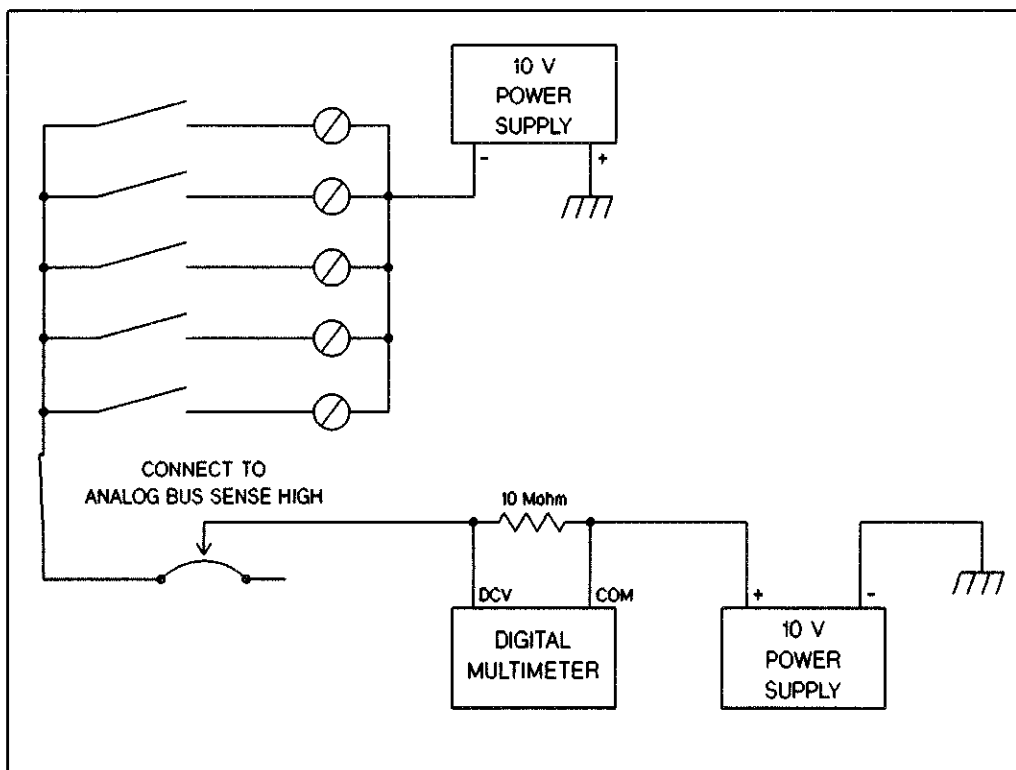
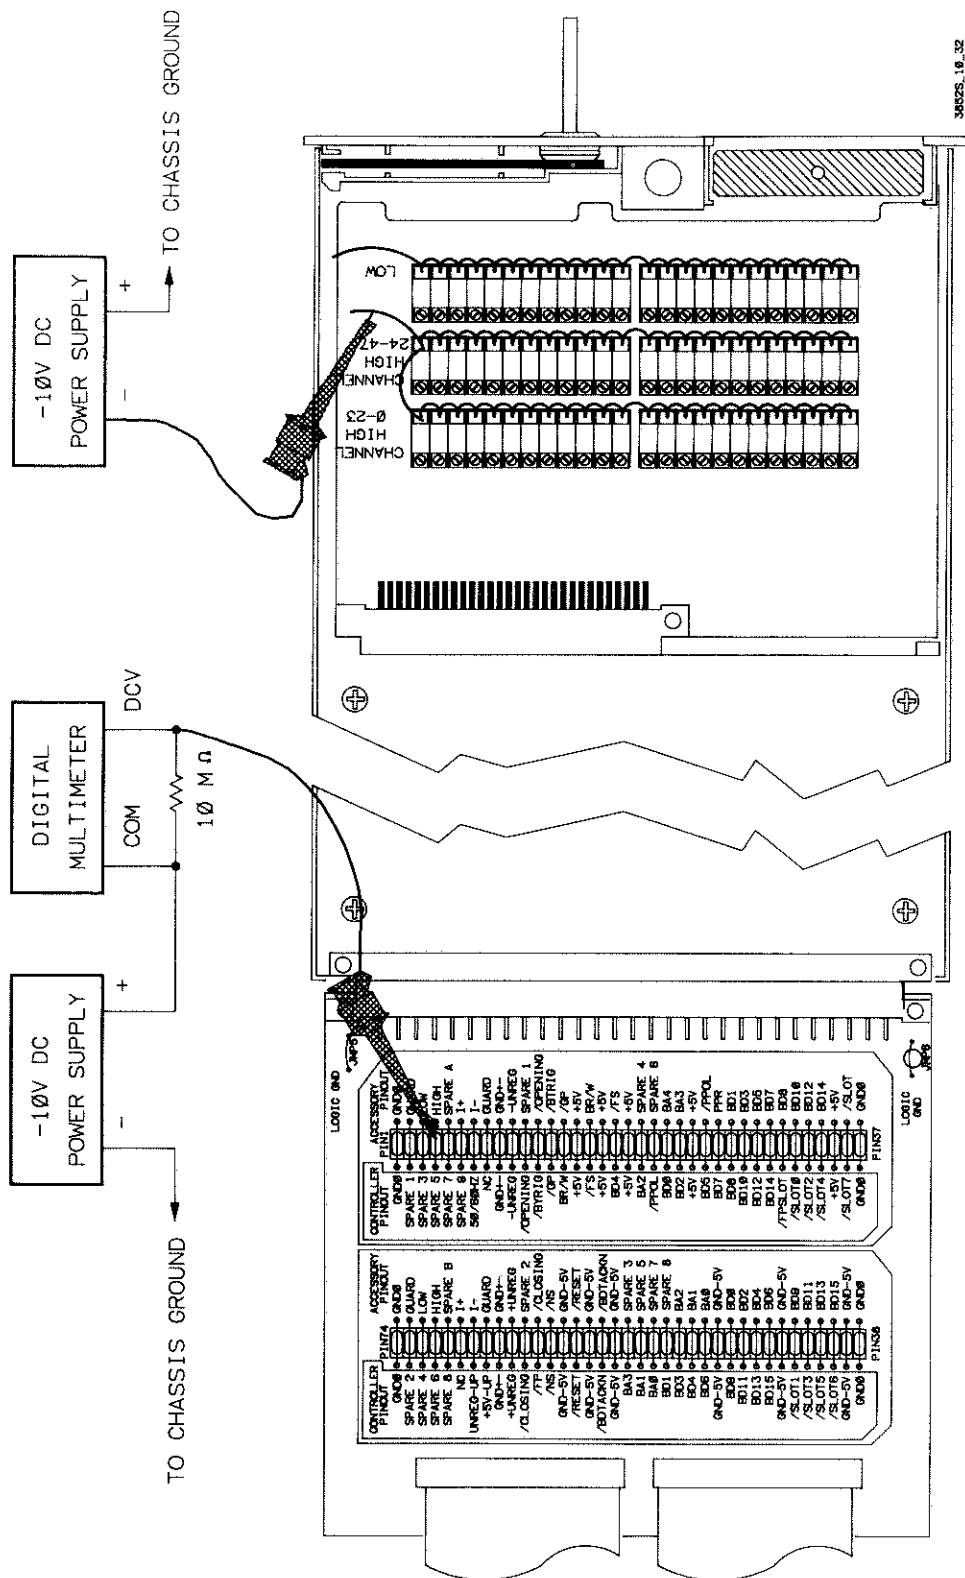

Figure 10-31 Open Channel Leakage Test
Figure 10-32 HP 44712A Open Channel Test Set-Up
1. **OPEN CHANNELS LEAKAGE/BIAS CURRENT TEST.** This test checks the leakage current with all channels open. A simplified schematic of the setup is shown in Figure 10-31 and the test setup is shown in Figure 10-32.
10. **CLOSED CHANNEL LEAKAGE/BIAS CURRENT TEST.** This test checks each channel HIGH lines for leakage current when a channel is closed. A simplified schematic of the setup is shown in Figure 10-31 and the test setup is shown in Figure 10-32.